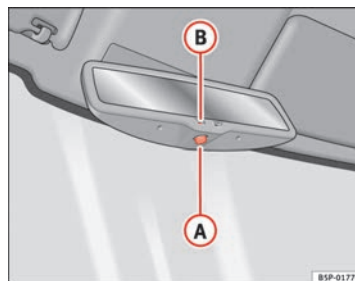

Fig. 89 Automatic anti-dazzle interior rear vision mirror.
- Press button (A) ⇒ Fig. 89. Control lamp (B) goes off.
- Press button (A) ⇒ Fig. 89. Control lamp is lit.